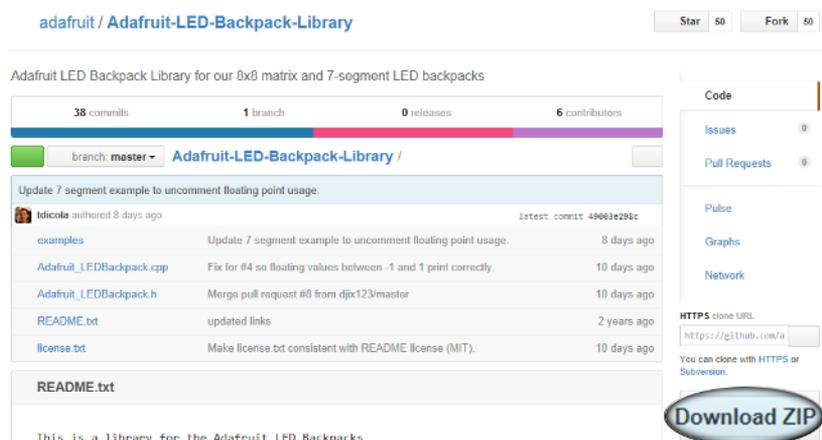

Figure 4-5. The Download ZIP button on GitHub
2. Download the ZIP file. Click the Download ZIP button on the GitHub repository page (Figure 4-5). Alternatively, if the code is not in GitHub, download it from the Internet site hosting the library.